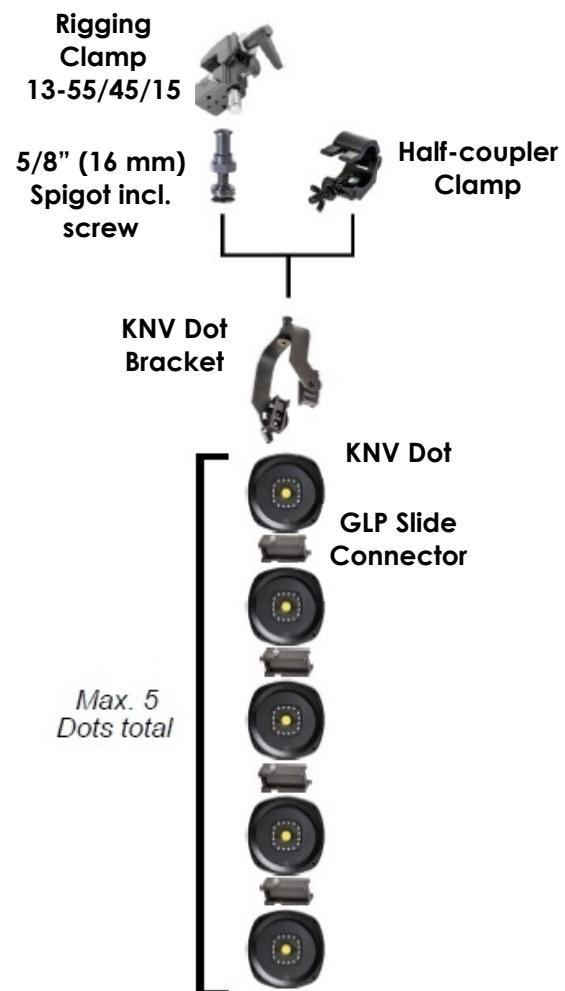

Figure 13. Single column of 5 x KNV Dots suspended using a KNV Dot Bracket
1. See Figure 13. Obtain either: